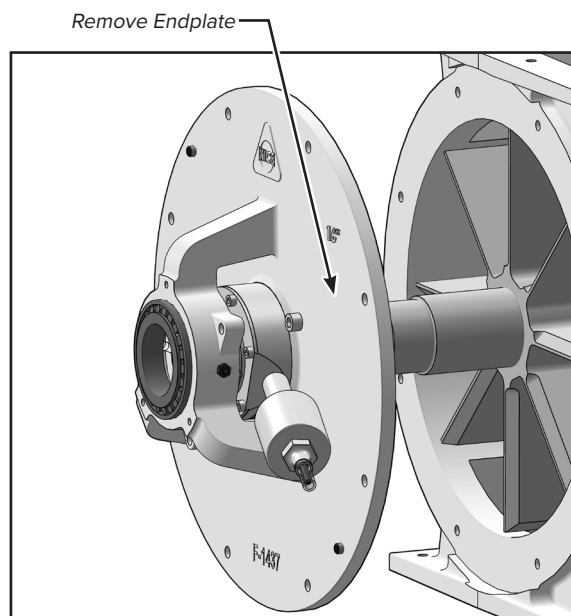

FIGURE 18
6. Remove the endplate from the airlock (figure 18).